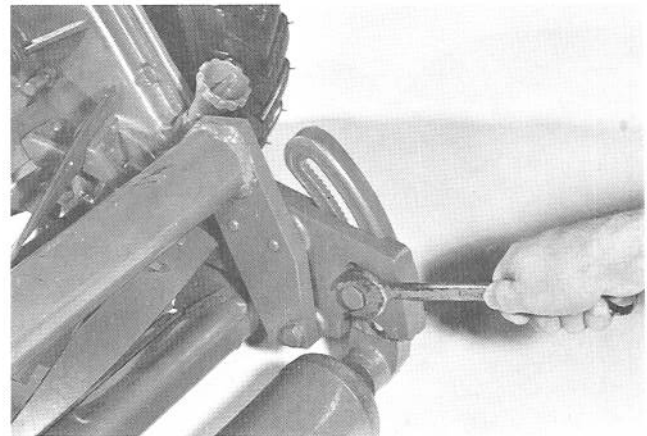

Figure 33
15. Remove roller adjustment bolts and nuts from each side of roller (Fig. 33). Slide complete roller assembly from the roller adjusting brackets.